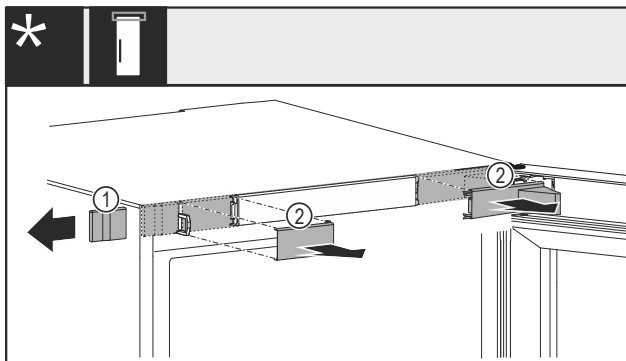

Fig. 13 With mechanical or electric lock*
- ▶ Carefully remove the cover Fig. 13 (1) from the side.*
- ▶ Carefully remove the covers Fig. 13 (2) towards the front.*